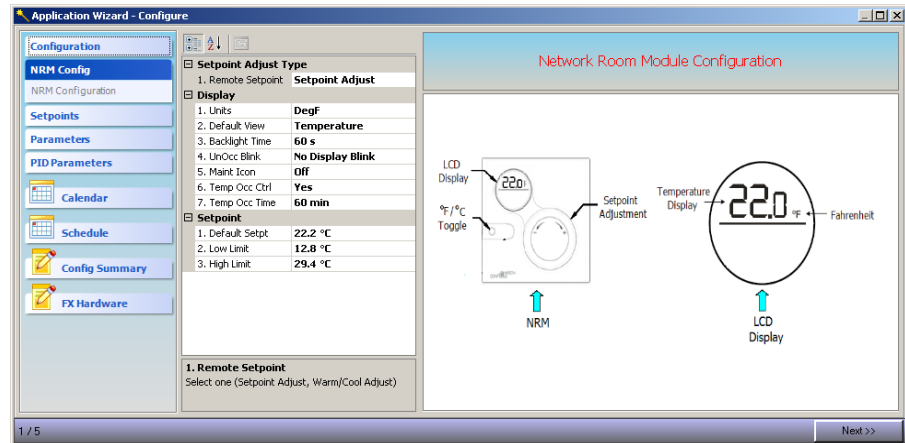

Figure 37: NRM Config Plug-in
1. Click NRM Config. The NRM Config functions and values appear (Figure 37).